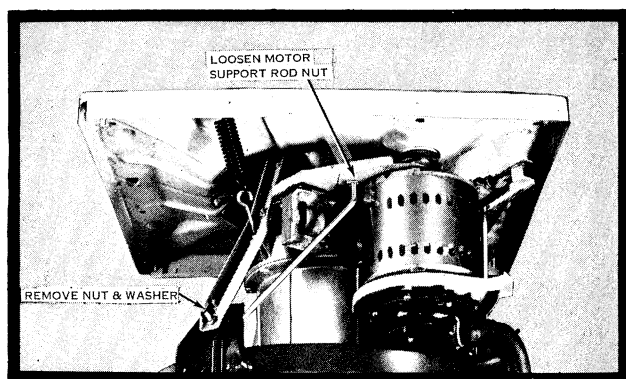
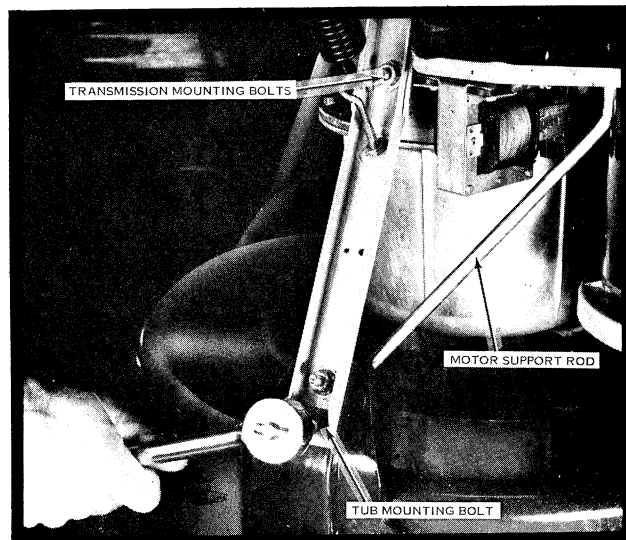

Figure 63
Figure 64
- d. Remove the nuts and washers from the support rods at the support brackets and turn aside, *Figure 63* and *Figure 64*.